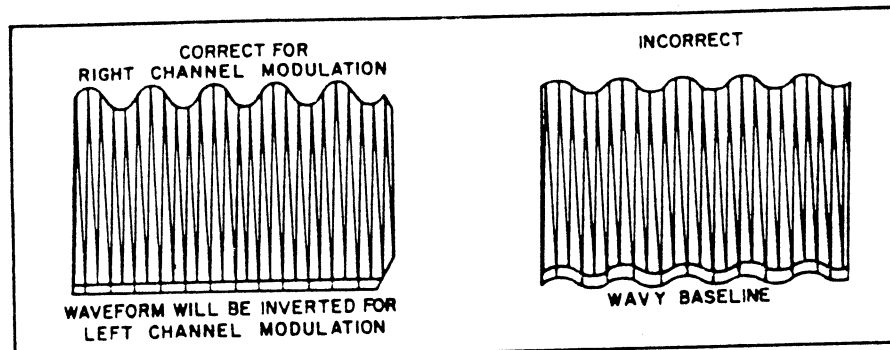

Figure 12. Waveform At Test Point 402
(6) Set R107 SEPARATION CONTROL (on preamplifier board) to mechanical center. Adjust core of Z403 (on AM/FM IF, MPX board) for maximum gain and as straight a base-line as possible on scope (see Figure 12). AC VTVM should read minimum.
(7) With MPX generator modulated on right channel only, connect AC VTVM to RIGHT RCDR OUT jack. Record reading on AC VTVM.
(8) Set MPX generator to modulate left channel only. Adjust R107 SEPARATION CONTROL (on preamplifier board) for minimum reading on AC VTVM; at least 35 dB below reading recorded in step (7). Record reading.
(9) Connect AC VTVM to LEFT RCDR OUT jack. Same reading ± 2 dB as recorded in step (7).
(10) Set MPX generator to modulate right channel only. Same reading ± 3 dB as recorded in step (8).